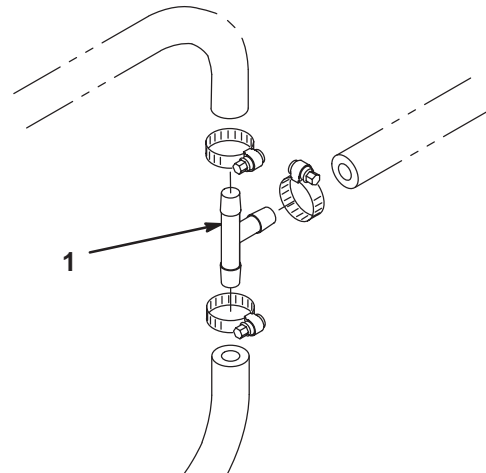

Figure 11
18. Mount the hoses to the new tee fitting with the hose clamps removed, as shown in Figure 11.